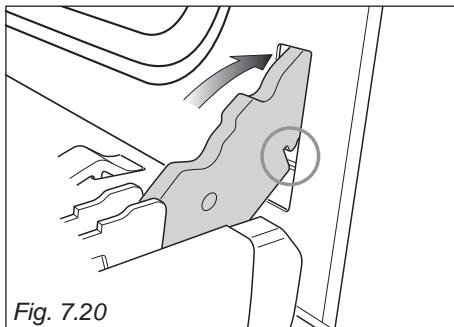

Fig. 7.20
2. Insert the hinge tongues into the slots, making sure that the groove drops into place as shown in figure 7.20.